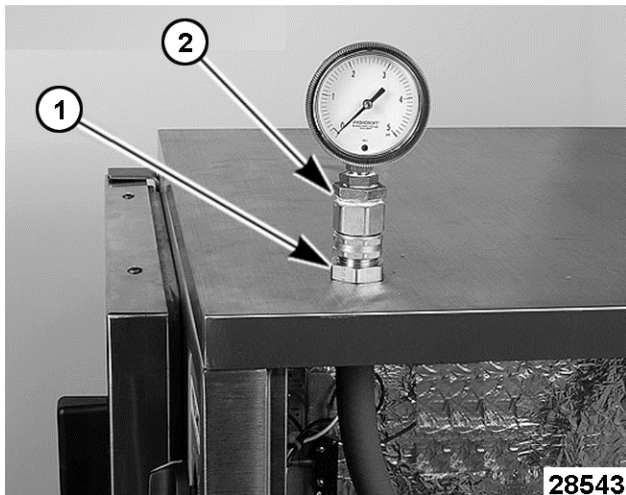

Fig. 78
4. Remove cap from delime port [1] Fig. 78 and install pressure gauge [2] Fig. 78. See TOOLS.